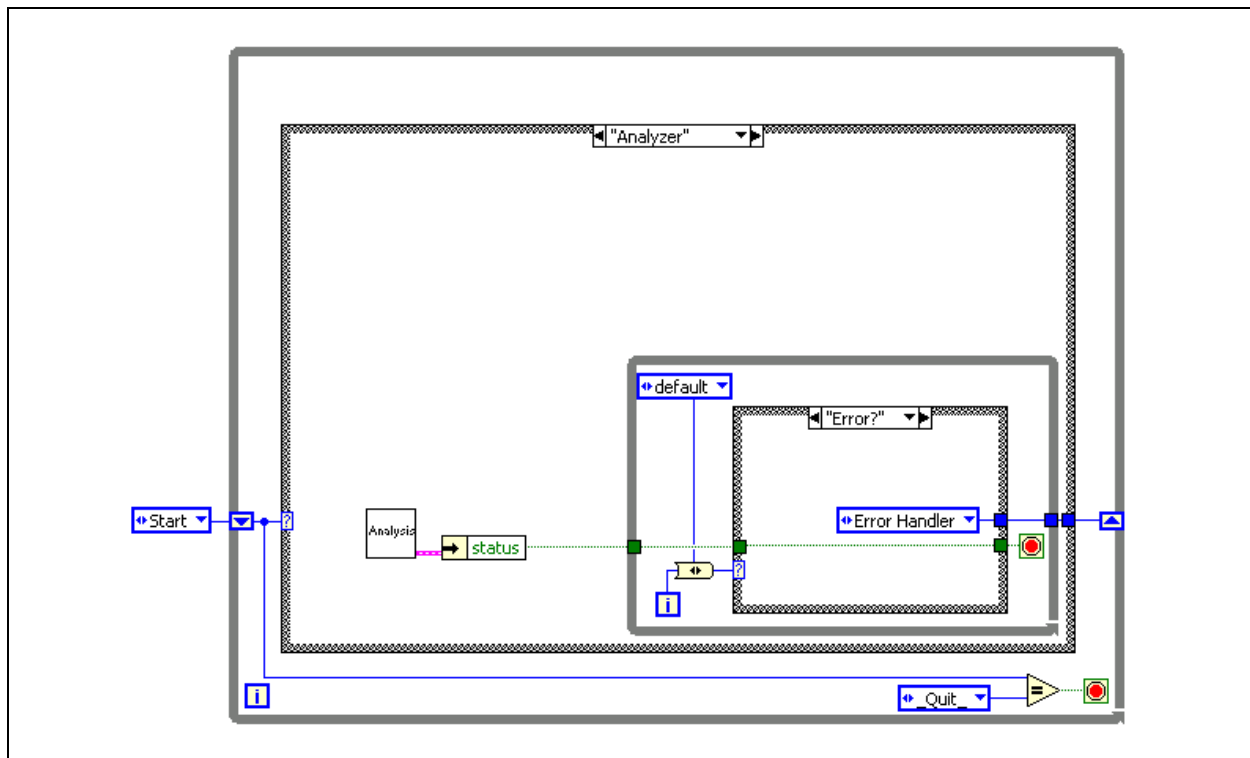

Figure 11-11. State Diagram Toolkit State Machine
- **State Diagram Toolkit**—Another pattern that implements the transition code is also used by the NI LabVIEW State Diagram Toolkit. This pattern uses a large Case structure for every state and a smaller While Loop that iterates through the state transitions until the proper state transition is met. Figure 11-11 shows the LabVIEW State Diagram Toolkit implementation for a temperature data acquisition system.